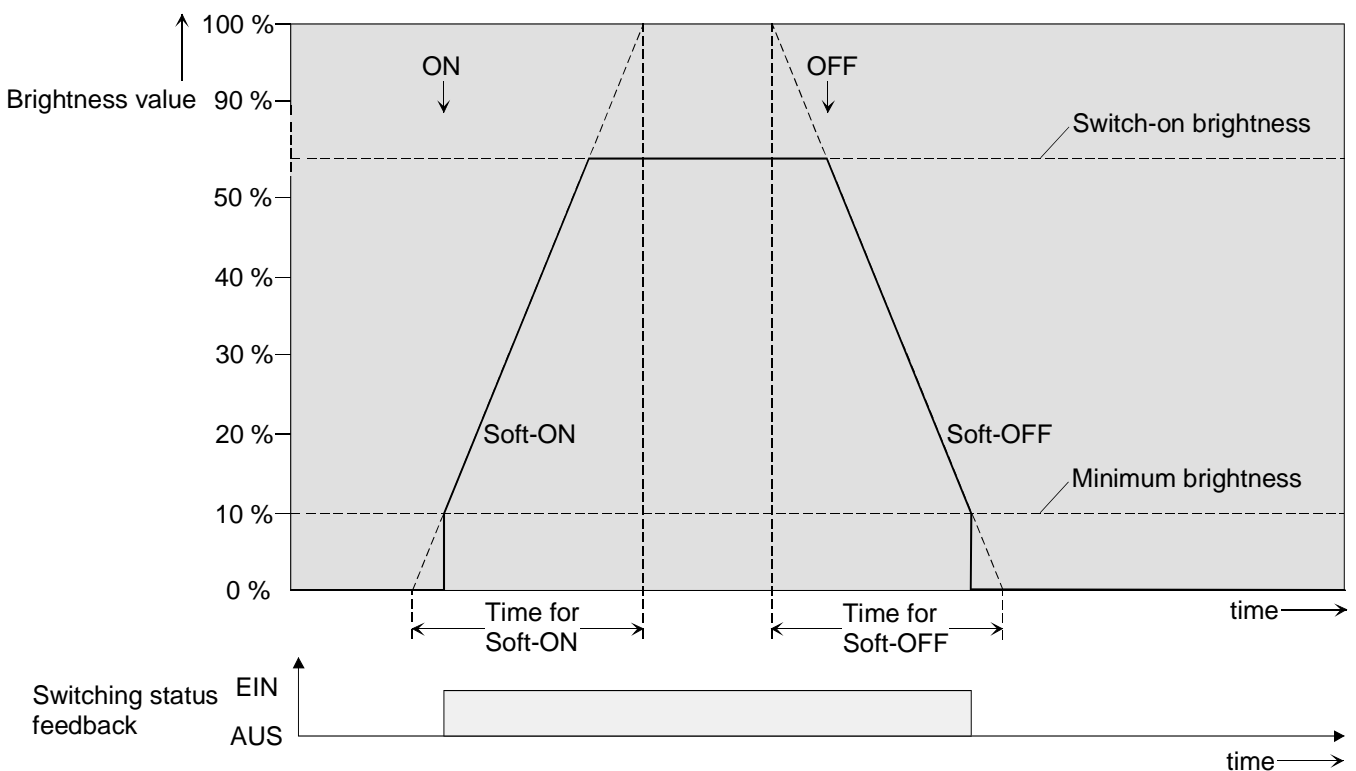

Figure 22: Dimming response of the Soft-ON/OFF functions for example: minimum brightness > 0%
If a Soft-ON function is activated, dimming will be executed until the parameterized switch-on brightness has been reached. This will also be the case if the DALI group has been switched on to a brightness value that is smaller than the switch-on brightness value. If a Soft-OFF function is activated dimming will take place after receiving an OFF telegram until 0 % brightness is reached (cf. figure 22).
- The dimming of a Soft-ON function starts with the minimum brightness configured in the ETS plug-in. If a DALI group is switched off (brightness value = 0 %) and then switched on, the group will jump to the parameterized minimum brightness and will start the Soft-ON dimming with the switch-on brightness (cf. figure 22).